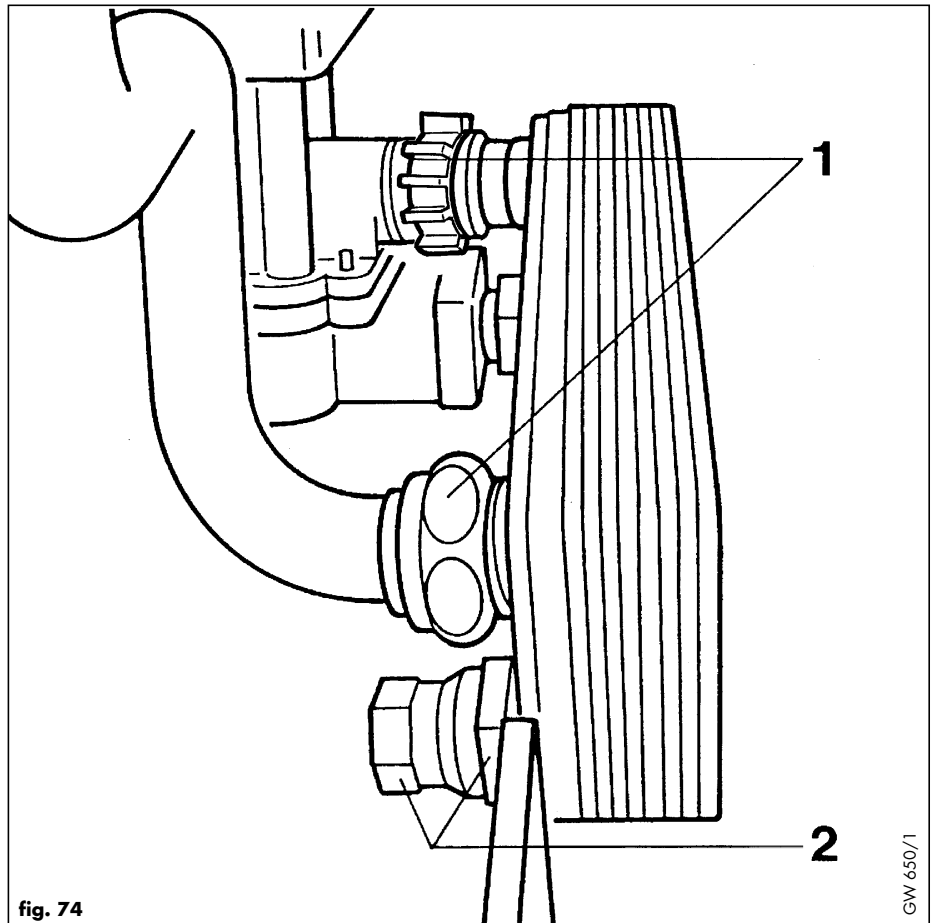

fig. 74
- Unscrew the top two unions (1, fig. 74), bottom left hand union and backnut (2, fig. 74)